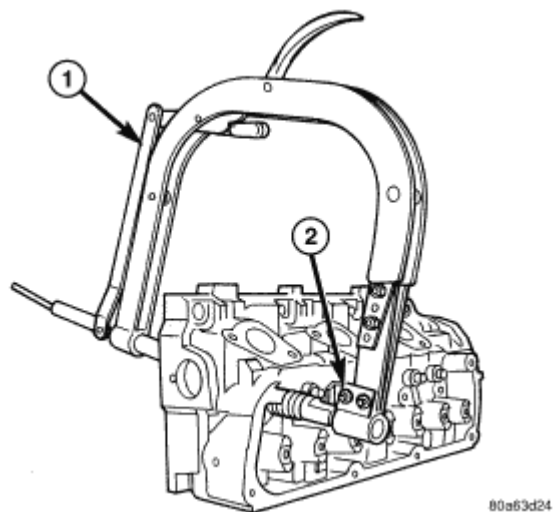

Fig. 106: Identifying Spring Compressor & Adapter
3. Using Special Tool C-3422-D with 8464 Adapter, compress the spring only enough to install the valve retainer locks. Install valve retainer locks. See **Fig. 106**.